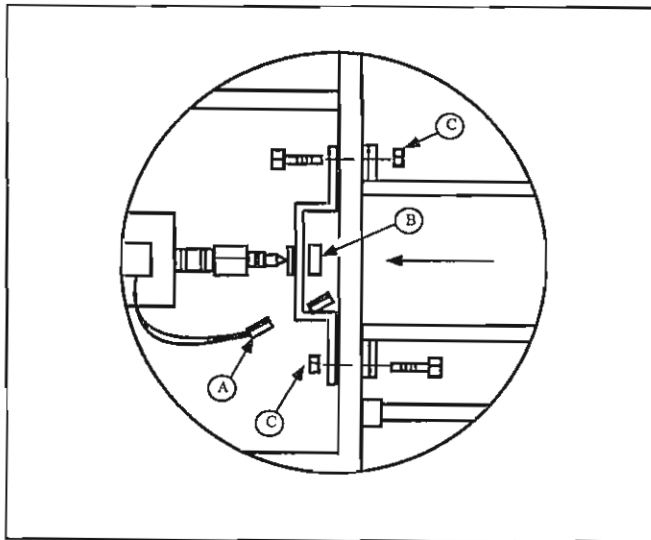

Figure 4-2
3. Unplug wire (A) at the glo-bar. Remove nut (B) and slide control assembly back. Unscrew bolts (C) fastening the orifice bracket to the control box, and pull out burner housing from tube (see Figure 4-2). Pull burner housing off fixed bolts, rotate counterclockwise 1/4 turn and remove.